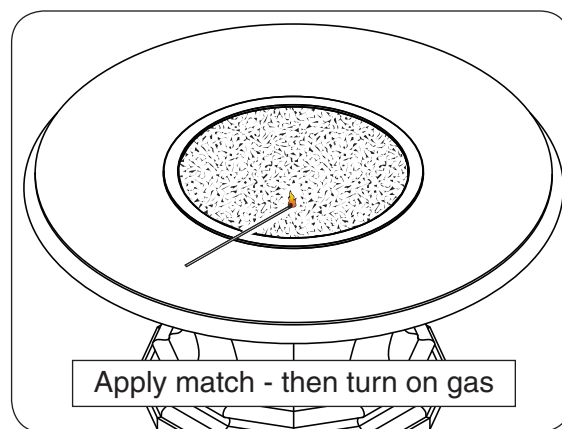

Fig. 27-1
3. Lay a lighted long-stem match on the surface of the decorative media near the burner (**do not hold the match in your hand**) or use a lighted long-necked butane lighter (Fig. 27-1).